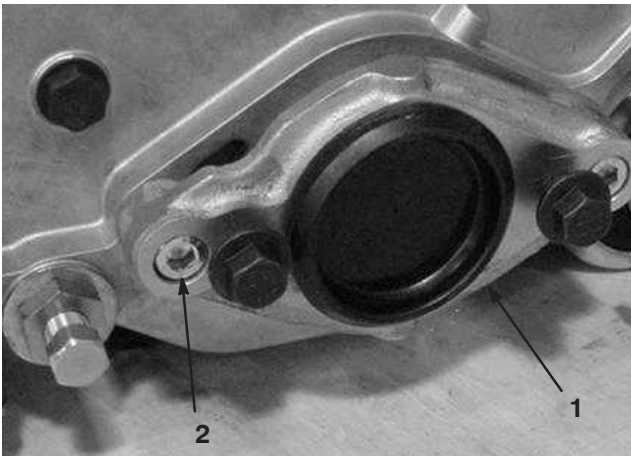

Figure 3
6. Remove the (2) allen head screws securing the motor mount to the right end of the cutting unit. Remove the motor mount (Fig. 3).